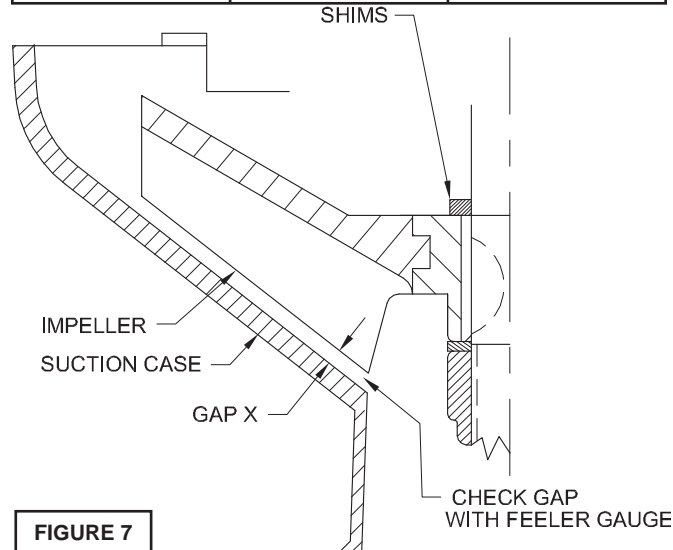

FIGURE 7
Insert strainer bolts (66) with washers (30, on 10-15HP) or (49, on 25-50HP), into remaining holes in suction case (4). After assembly, check that the impeller rotates smoothly, but with a slight drag due to bearing and rotary seal friction. If the impeller turns roughly, the bearings should be replaced (See Section F-6). If impeller hangs up or is hard to turn, the gap between the impeller and suction case should be checked. To check the gap, a feeler gauge should be used. Check the gap between the suction case liner and the impeller vanes as shown in Figure 7. Determine the proper gap setting from Table 2 and adjust by